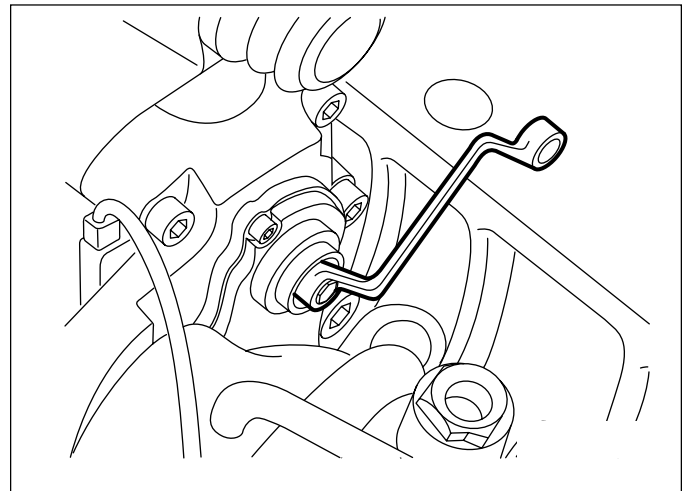

Figure 9 - Running Clearance Adjustment
4. Use an 8 mm six-point box wrench to turn adjuster shaft clockwise until achieving proper running clearance (Figure 9).